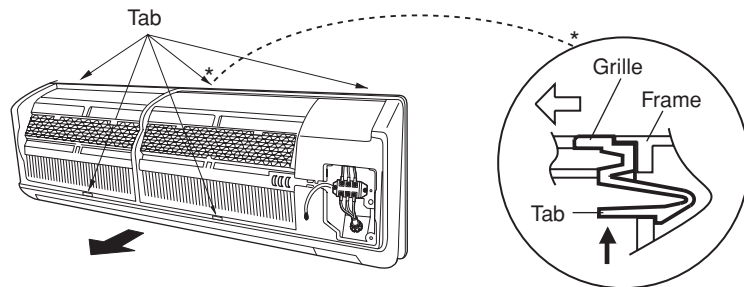

Fig. 18a
- (5) Pull the lower part of the grille toward you to remove. (Fig. 18a)